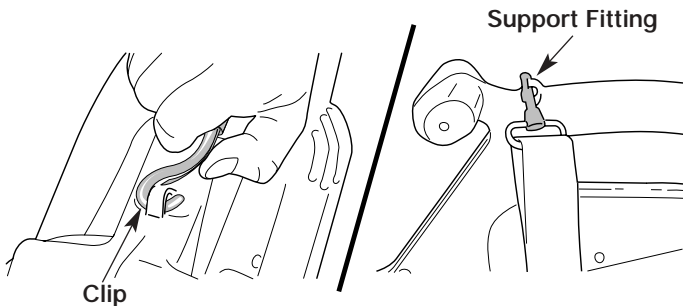

Fig. 7
4. Attach the metal clip of the shoulder harness to the support fitting on top of the handle (Fig. 7).